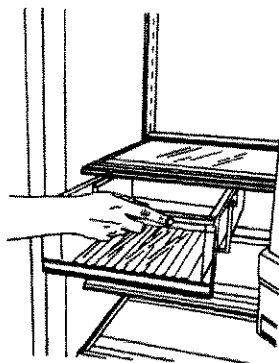

Figure 17
- c. To reposition meat drawer, pull drawer three-quarters out of sleeve. See Figure 17.